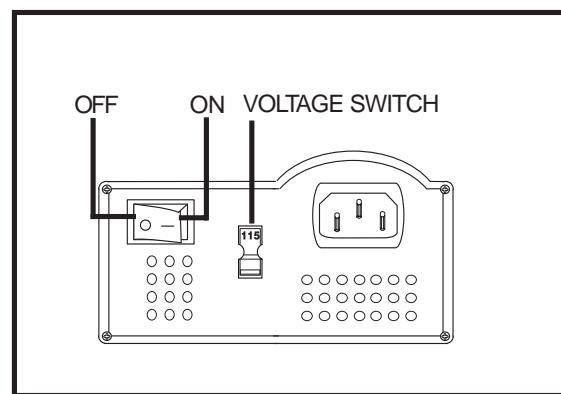

Figure 8. Charger On/Off and Voltage Switches
The off-board charger supplied with your PMV is equipped with a 115/230 voltage switch. Confirm that this switch is in the proper position for your locality. If you are not sure what the voltage is in your country, contact your local electricity provider before inserting the charger power cord plug into your electrical outlet. If the setting is incorrect, the charger will not function properly. Slide the voltage switch to the prescribed position. **See figure 8.**
6. Turn the charger on. **See figure 8.**